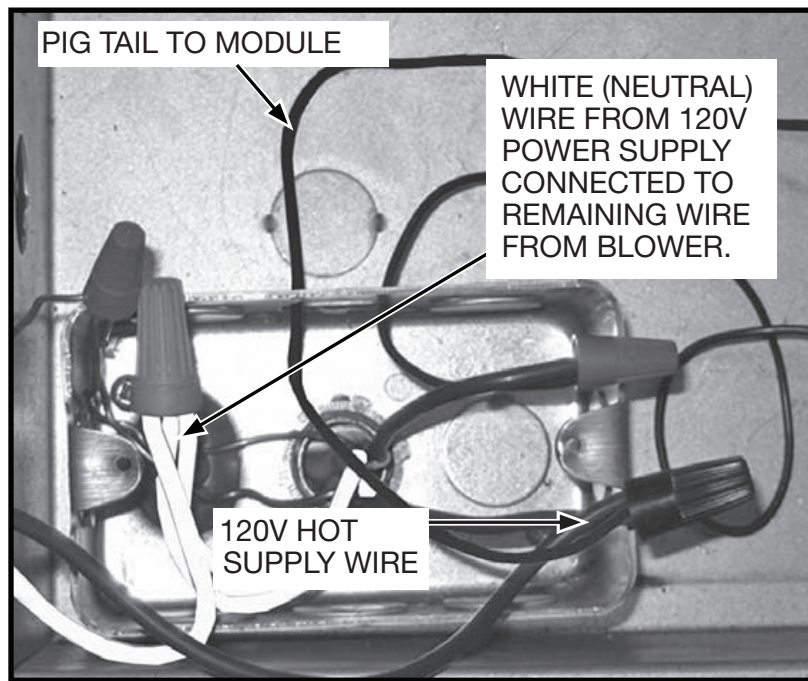

Figure 10: Wiring from power supply.
6. Connect the 120V hot supply wire to one of the pig tails from the module (Figure 10).
7. Connect the white (neutral) wire from the 120V power supply to the remaining wire from the blowers (Figure 10).